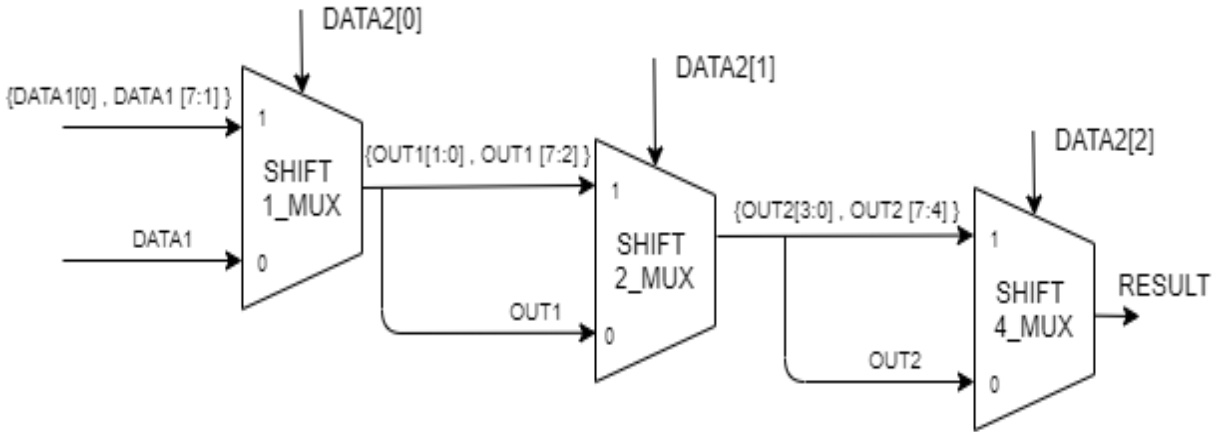

Figure 6: Rotate right module
- Right rotate is done inside the ALU using 3 MUX modules as shown in figure 6.